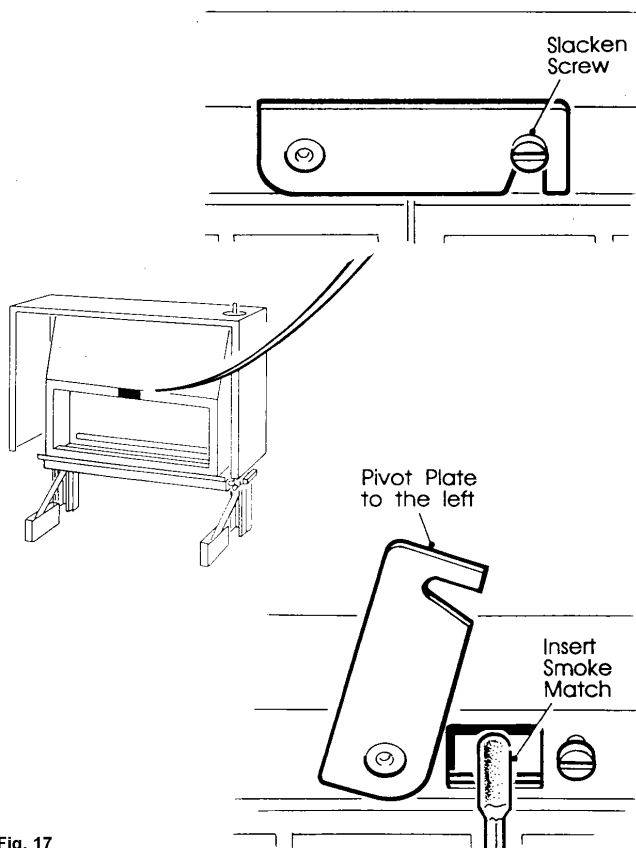

Fig. 17
b) After 10 minutes the fire will be ready to test for spillage. Expose the test hole by slackening off the screw holding the cover plate in position and pivot it to the left. See Fig. 17.
c) light a smoke match and position in the test hole as shown in Fig. 17. The complete head of the smoke match should be inserted into the hole.